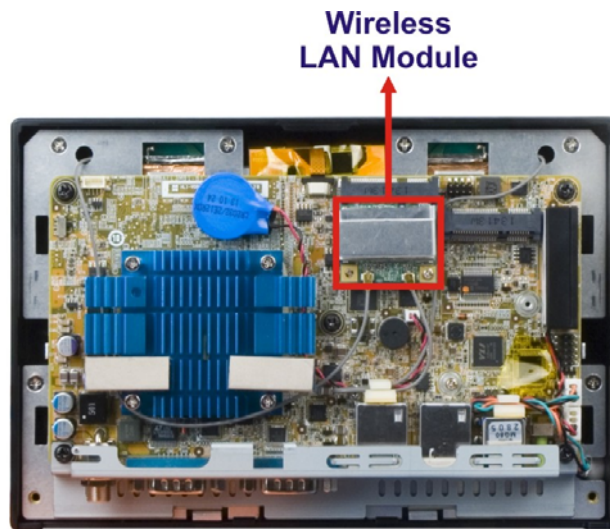

Figure 5-2: WLAN Card Location
Step 4: Locate the WLAN card (**Figure 5-2**).